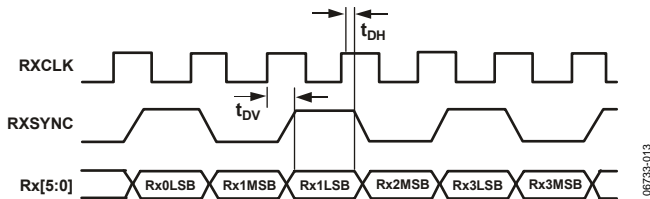

Figure 13. Full-Duplex Rx Port Timing
2. The Rx data is valid on the rising edge of RXCLK, as illustrated in the timing diagram shown in Figure 13.